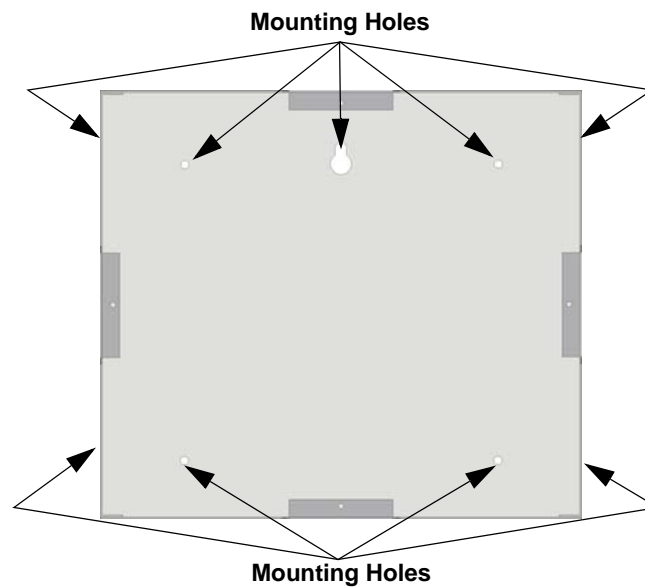

Figure 4-22 Back Box Mounting Holes
1. The back box dimensions are 9¼" W x 8 3/8" H. The minimum depth required is 2". The back box can be mounted prior to the complete installation of the 6860 using any of the mounting holes shown in Figure 4-22.